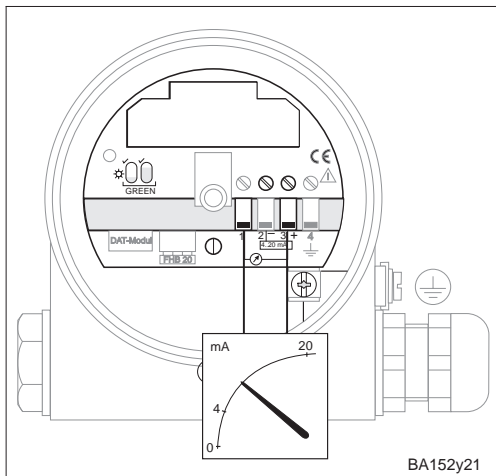

Fig. 10
- The ammeter is connected as shown in Fig. 10.